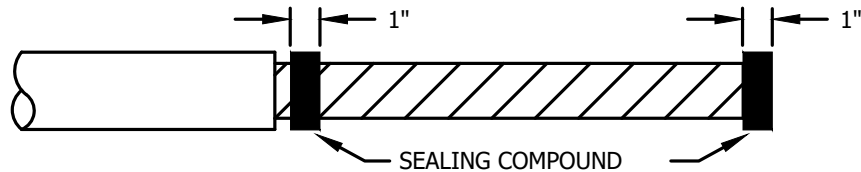

FIGURE 2
- WHEN USING END CAPS OVER CONCENTRIC NEUTRALS, IT IS NECESSARY TO APPLY A PAD OF SEALING COMPOUND OVER THE END OF THE CABLE AND AT THE JACKET CUTBACK CUTBACK TO ENSURE AN ADEQUATE WATER SEAL (SEE FIGURES 2 AND 3).
2. PLACE PAD OF SEALING COMPOUND OVER AND BACK ONE INCH ONTO END OF CABLE AND PLACE A ONE INCH BAND OF SEALING COMPOUND JUST AHEAD OF JACKET CUTOFF AS SHOWN IN FIGURE 2.